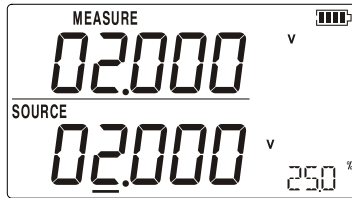

Figure 2.1-6
9. Press  and  to step between 0 and 100% in 25% step increments. The screen will display as shown in Figure 2.1-6